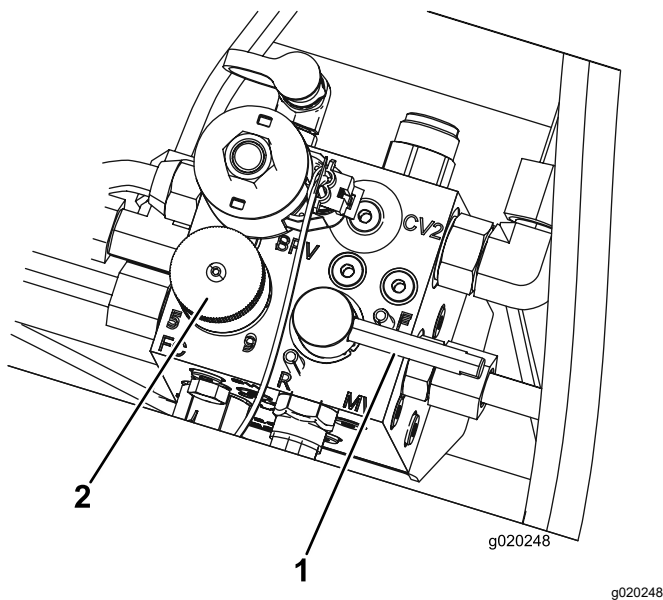

Figure 99
- 3. Move the backlap lever to the F (mow) position (Figure 99).